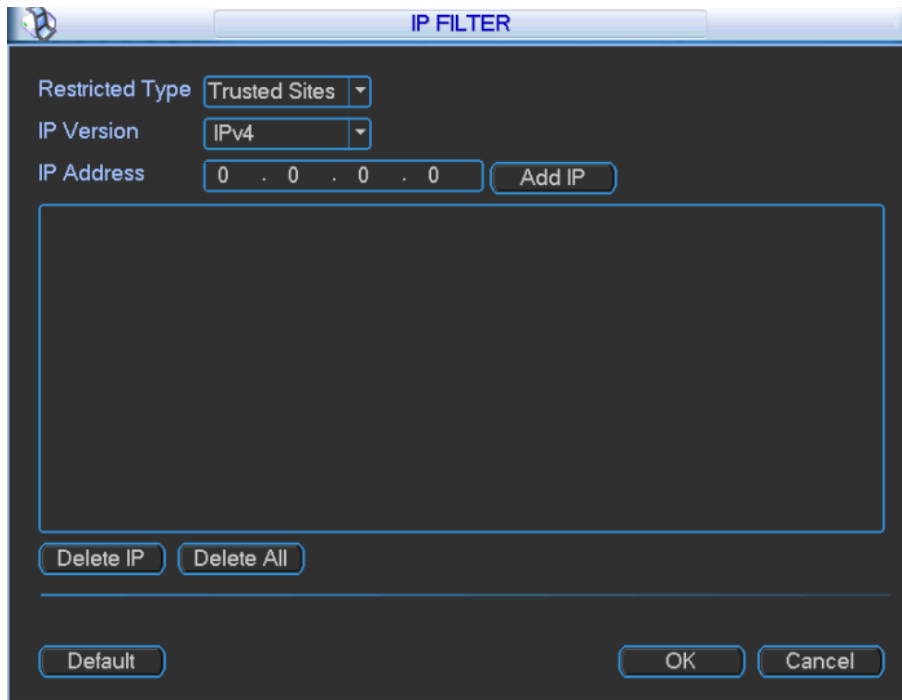

Figure 3-39
Step 1 In main menu, select "Setup> Network> Network Setup > IP Filter", and the system displays "IP Filter" interface, as shown in Figure 3-39.